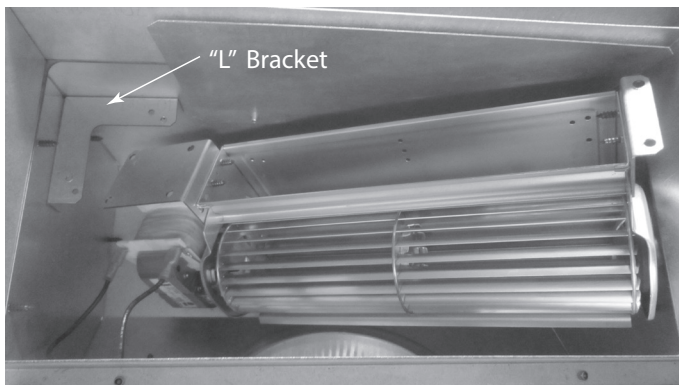

Figure 3.29
- Insert fan into the fan housing starting with motor end first. Slip it below the "L" bracket on the left side allowing the right side to drop in. See Figure 3.29.